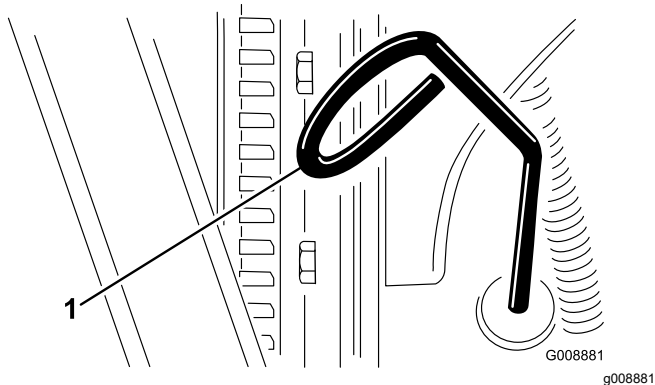

Figure 59
2. Remove the dipstick (Figure 59) and wipe it with a clean rag.